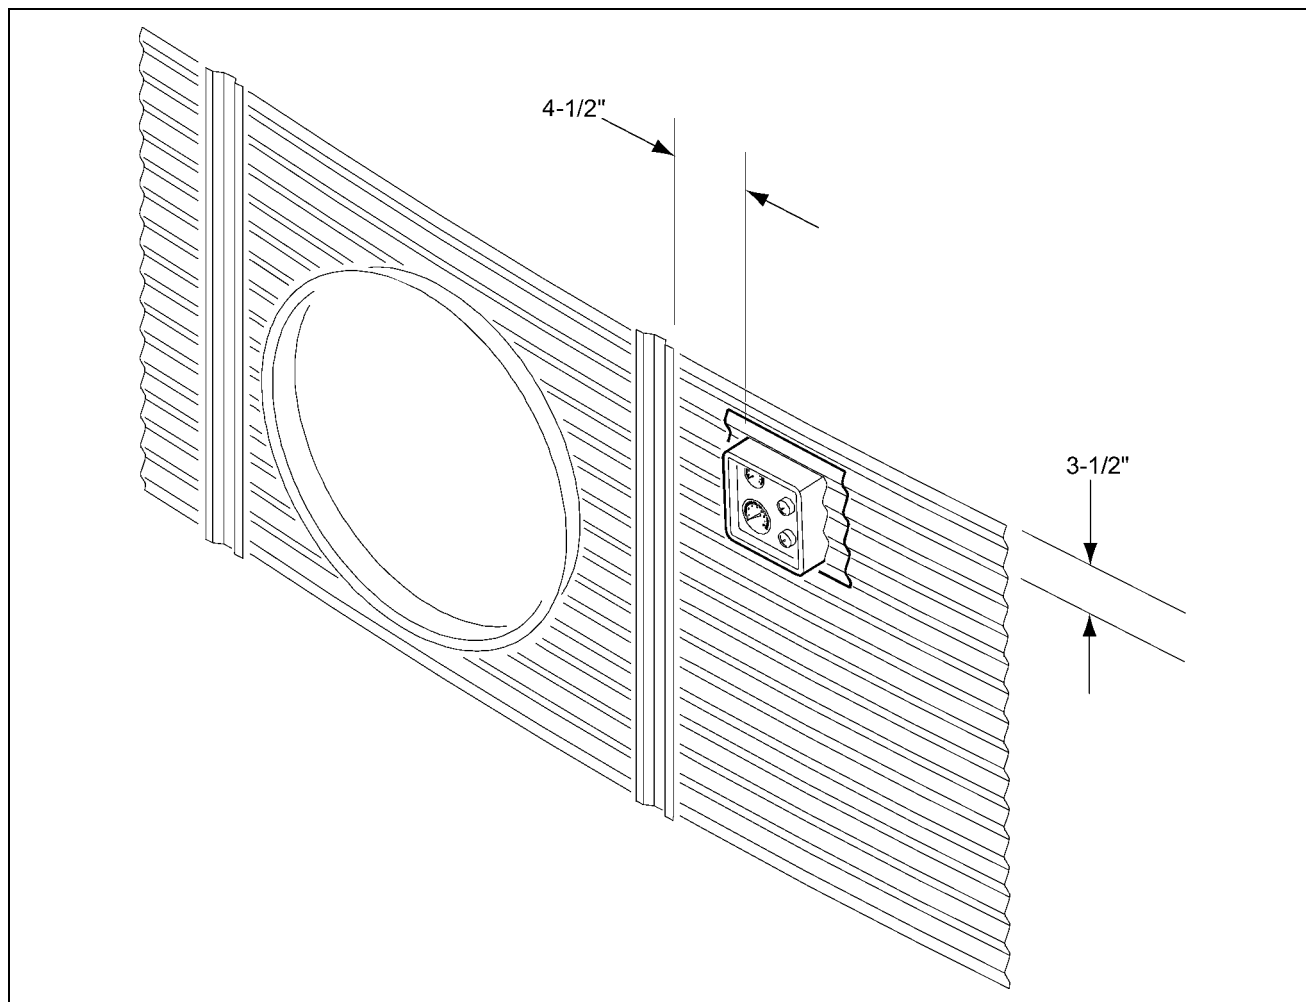

Figure 4A *Placement of the Top Dry High-Low Thermostat*
1. Locate the mounting position of the thermostat as shown in Figure 4A.